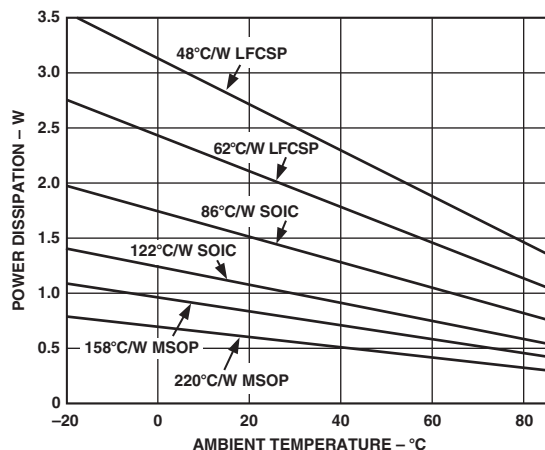

Figure 5. Power Derating Curve
The maximum power dissipation versus ambient temperature for each package is shown in Figure 5.
2. The thermal pad of the LFCSP package provides a low thermal impedance path (approximately $20^{\circ}\text{C}/\text{W}$) to the PCB. Therefore the PCB must be properly designed to effectively conduct the heat away from the package. This is achieved by adding thermal vias to the PCB, which provide a thermal path to the inner or bottom layers. See Figure 5 for the recommended via pattern. Note that the via diameter is small to prevent the solder from flowing through the via and leaving voids in the thermal pad solder joint.